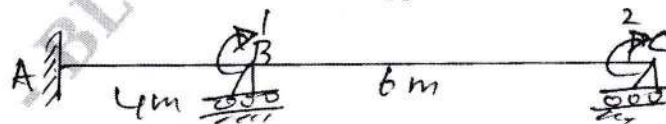

Fig.Q.4(a)
- 4 a. Develop the stiffness matrix for the continuous beam with respect to the coordinates shown in Fig.Q.4(a).  $EI = \text{constant}$ . Use transformation approach.